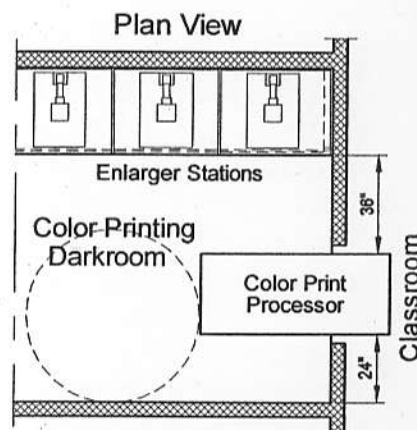

Fig 1. Color Processor Mounted through a wall
(2) Essential features in all B&W Print Processing Darkrooms are an enlarger station for each student and a central walk-around processing sink with a print washer and squeegee board. There are many types of enlarger stations, some with drawers (including locks and light-tight lids), some with shelves (with or without doors); and others with print drying screens or any combination of these features. Enlarger stations 36" or 42" wide work well. There must be at least one special enlarger station for a wheelchair student (minimum width of 36"). The enlarger stations should be located around the perimeter of the room. A large walk-around print processing sink(s) with print washer and squeegee board are centered in the room. Allow 24" at the sink rail for each student and assume half of your students will leave their enlarger stations to work at the sink at a given time. Plan for 45 square feet of floor space for each student, and provide a 60" diameter wheelchair-turning-circle in all rooms.
(3) The same features found in the B&W darkroom are found in the Color Print Processing Darkroom except the sink is replaced with a color print processor. It is very helpful to mount the processor through the wall between the darkroom and the classroom so that the prints deliver to the classroom (see Fig 1.) where they can be evaluated in white light. A light tight seal around the wall opening is very necessary. A sink for cleaning processor racks will be necessary and should be located near the processor in the classroom. 40 square feet of floor space per student is about right for a color printing darkroom.